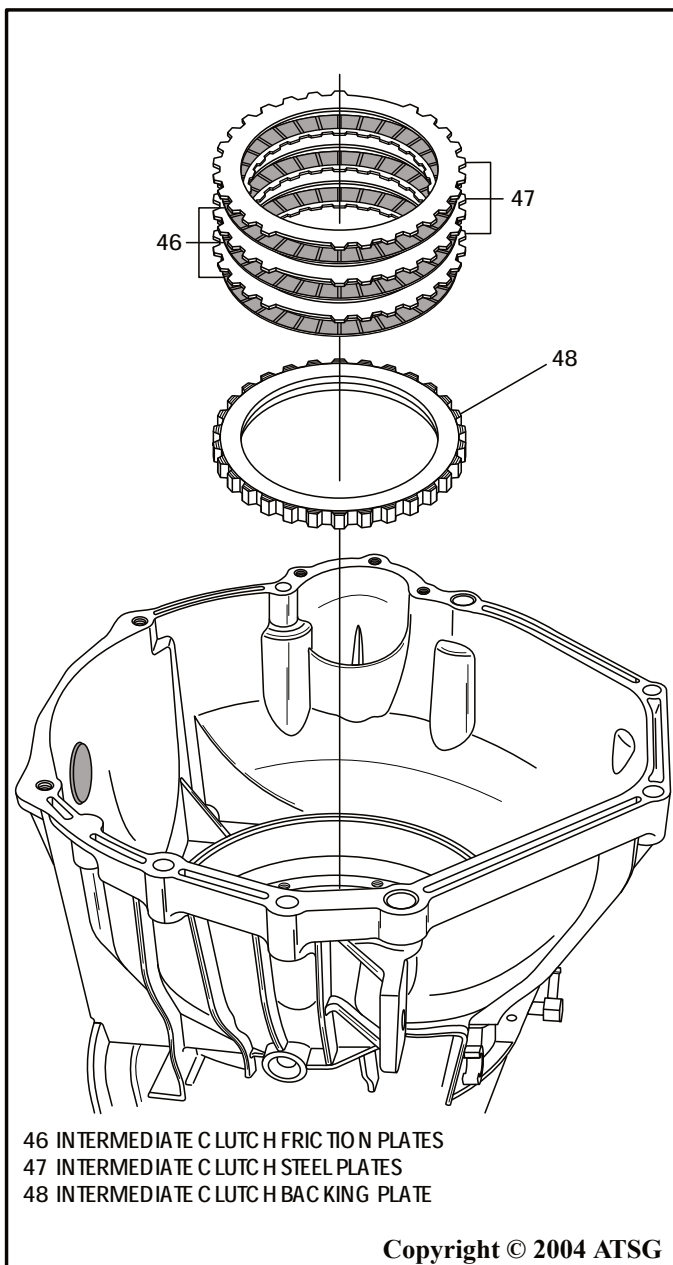

Figure 170
14. Install the intermediate clutch backing plate, as shown in Figure 170.
15. Install the intermediate clutch plates, as shown in Figure 170, beginning with a friction plate and alternating with steel plates until you have installed 3 of each.